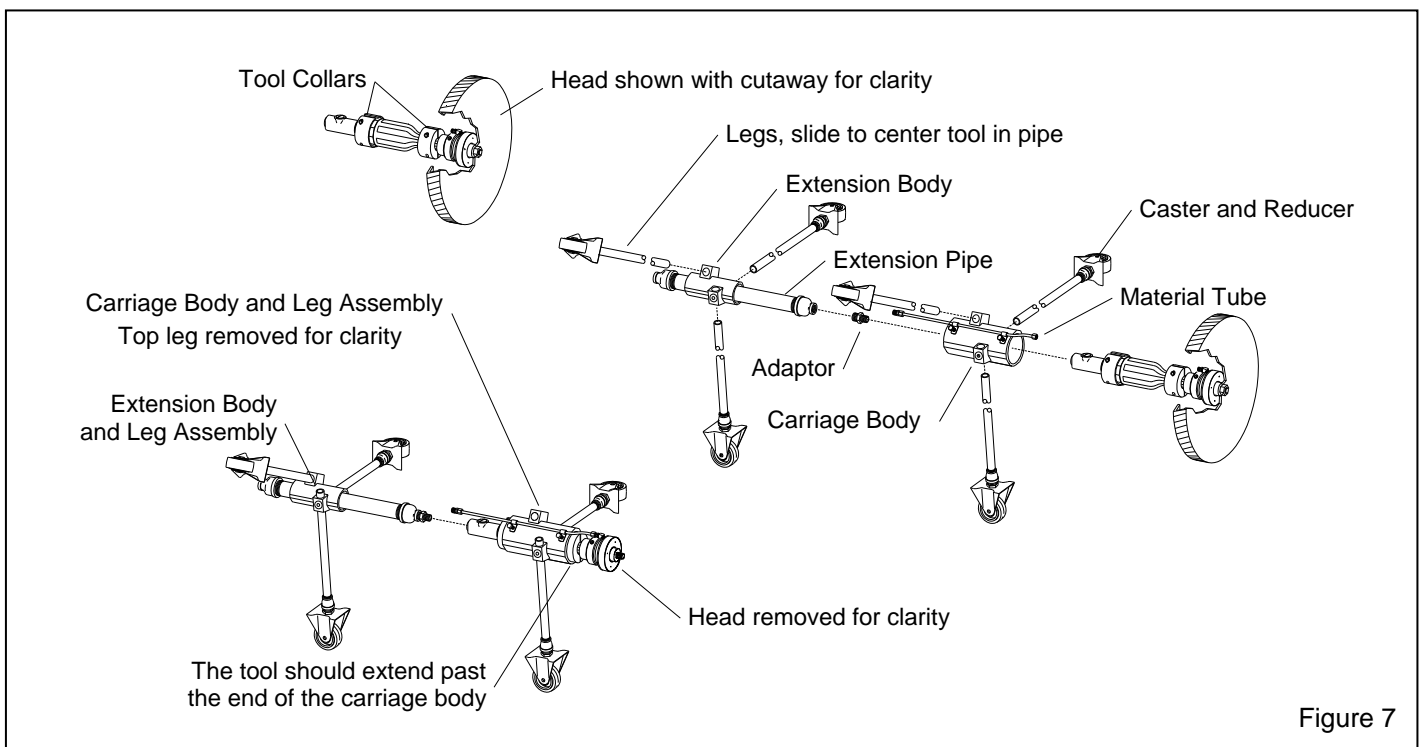

Figure 7
2.2.5 SK-4896 with 48" to 96" carriage, refer to Figure 7
2.2.5.2 Insert the tool into the carriage body, as shown in Figure 7; align the material tube's compression nut with the compatible fitting on the tool, making sure the front of the tool collar extends past the body. Tighten the material tube nut, and then tighten the cap screws to secure the carriage to the tool.